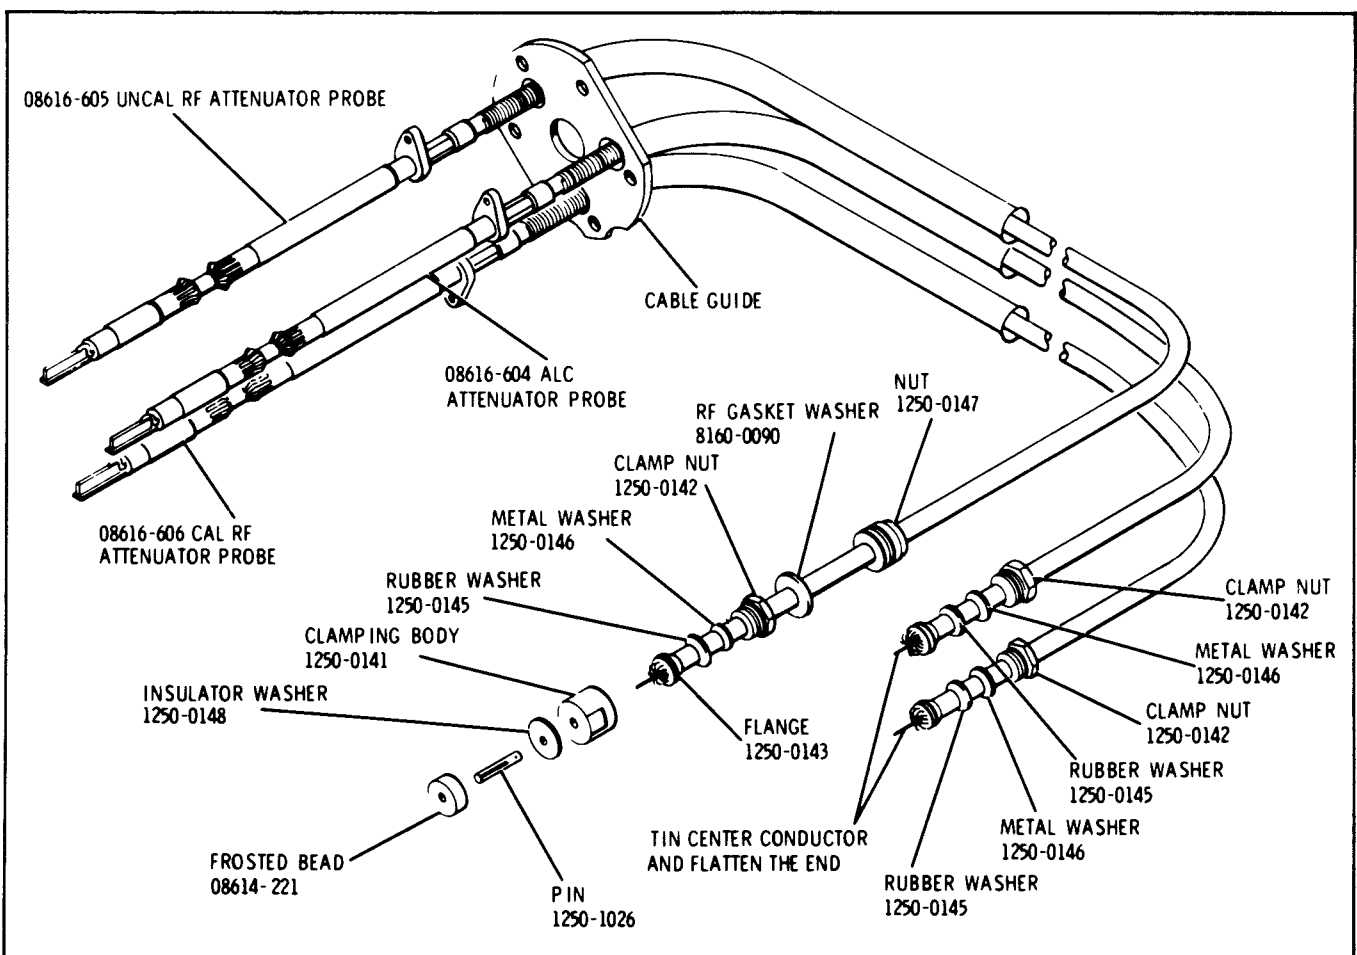

Figure 5-3. RF Probe Assembly
d. Place cable assembly connector parts on cable, with the exception of the clamping body, and fold the braid upon the connector assembly (see Figure 5-3).
e. Disconnect probe cable connectors from the modulator (see Figure 5-3). Be careful not to lose any disassembled